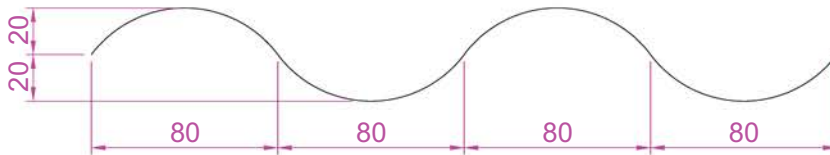
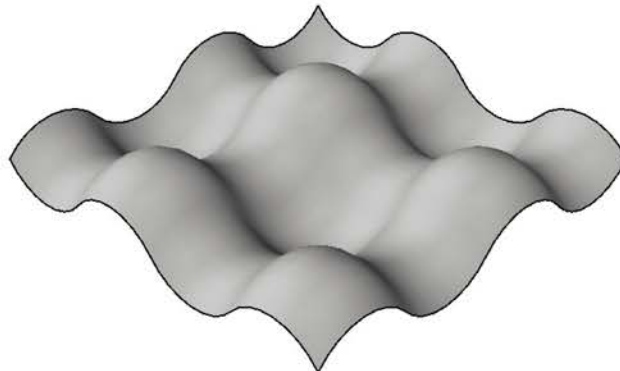

Fig. 18.48 Exercise 9 – one of the polylines from which the surface was obtained
Fig. 18.49 Exercise 9
9. Fig. 18.48 shows a polyline for each of the 4 objects from which the surface shown in Fig. 18.49 was obtained. Construct the surface and shade in **Shades of Gray**.